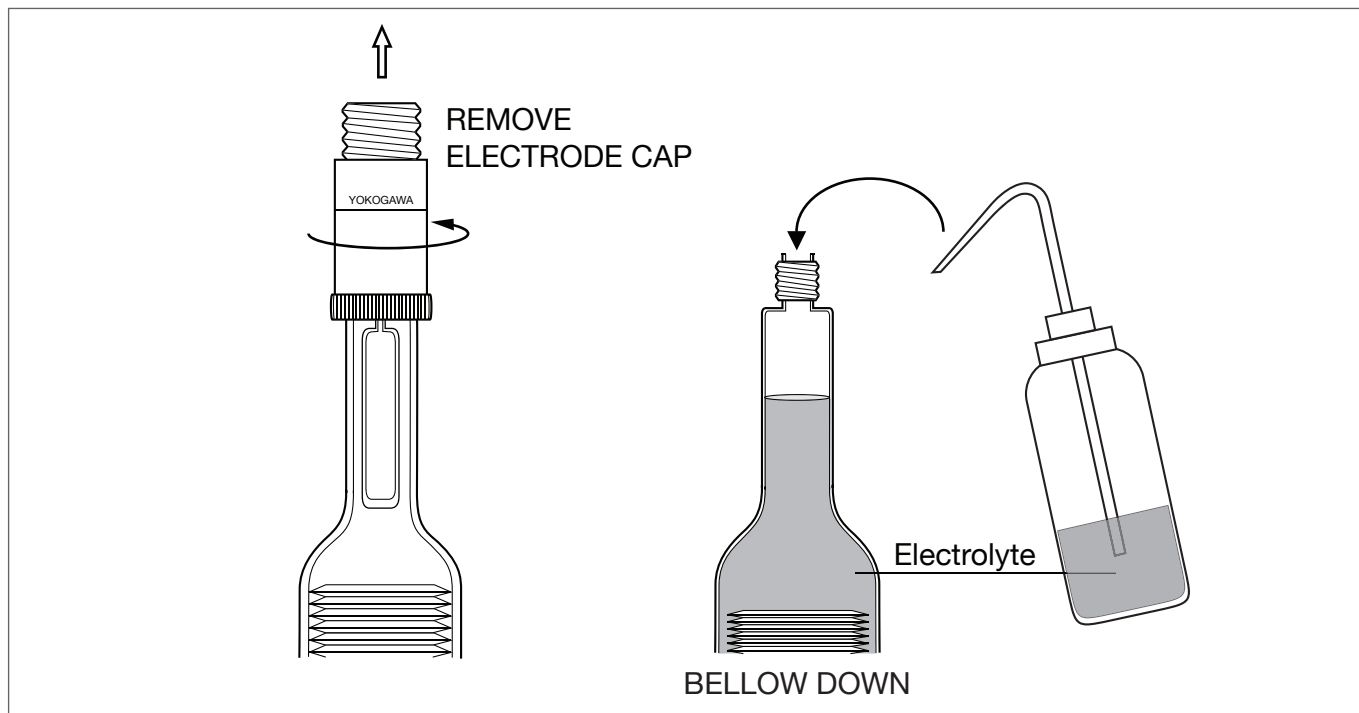

Fig. 7.50: Refill Bellomatic (SR20(D)-AC32)
Step 1: remove the electrode cap: same as first drawing in fig. 7.50.